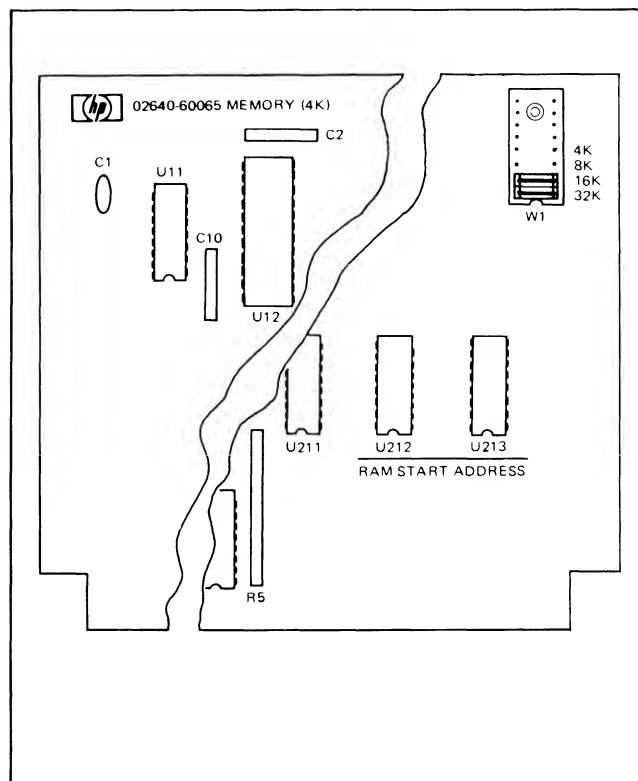

Figure 7-9. 4K Memory PCA Jumper Socket Location
3. () Using figure 7-9 as a guide, locate memory jumpers on 4K Memory PCA.